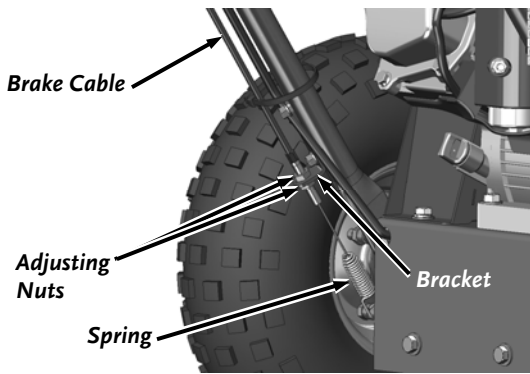

Figure 46
1. Loosen the lower nut a few turns so it moves away from the Bracket (**Figure 46**).
1. As you rotate the Wheel forward (with Wheel Lever unlocked), loosen the upper Nut until the Wheel turns more freely but you still feel a slight resistance at the Wheel (**Figure 46**).